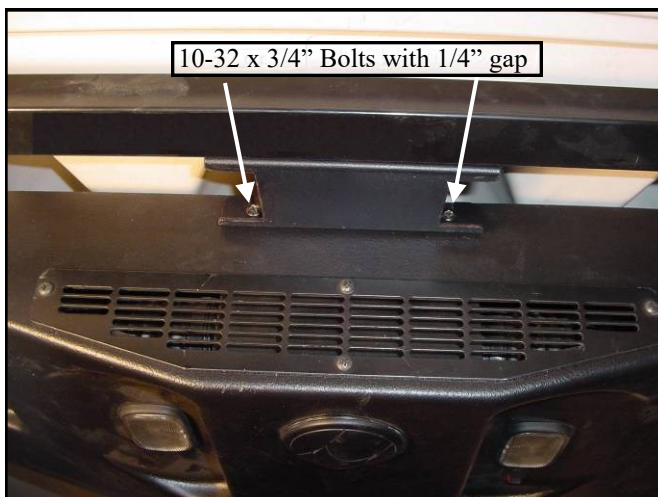

Figure 2.5 (view from front)
2.5 Push the front of the roof up to gain clearance for the heater unit. Note: If additional clearance is required, remove the front roof support nuts and washers completely from step 2.1 and place a block of wood between the roof and roof support tube. With someone supporting the back of the heater unit until the end of the next step, guide the 10-32 partially threaded bolts on the front of the heater unit (from the previous step) into the slots denoted per fig. 2.5. Tightened the 10-32 bolts.